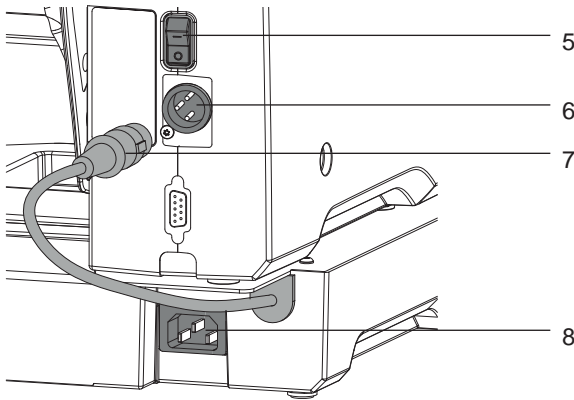

Fig. 2 Connecting
- ▶ Plug the power cable into the power connection socket (8, Fig. 2).